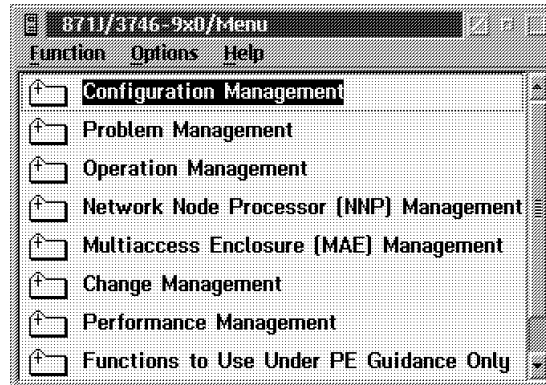

Figure 1-21. 3746-9x0 Maintenance Functions
2. Double-click the **3746-900 or 3746-950** icon. The panel in Figure 1-21 will appear: